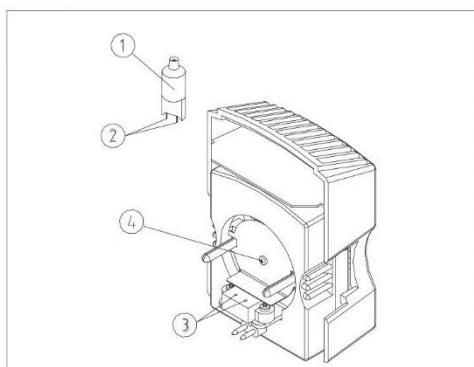

Fig. 15
2. Hold to the bulb ① after you wrap it with gauze or other protection materials, then depress the plugs into the jack on the lamp house, ensure the filament and the bolt are in a same level. (Fig. 15)
Connect the power, turn on the main switch (Fig. 15) to “-” (on).